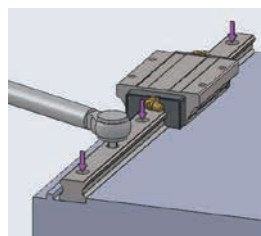

Fig. 5 Full tightening of mounting bolts
(D) Using a torque wrench, tightening the mounting bolts to the specific torque (fig. 5).
- (D) Using a torque wrench, tightening the mounting bolts to the specified torque.(fig 5)